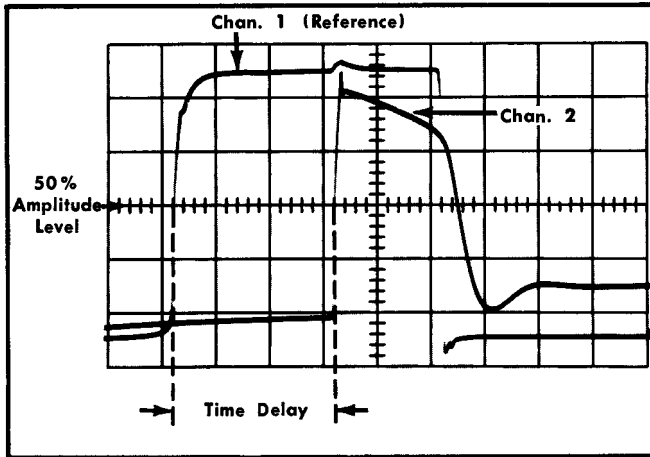

Fig. 3-3. Measuring time delay between pulse waveforms.
9. Measure the horizontal distance between the reference waveform and the Channel 2 waveform (see Fig. 3-3).
For example, assume that the Time/Cm switch setting is $2 \mu\text{s}$, the Magnifier is set for $5\times$ magnification, and there is a horizontal distance of 3 cm (as shown in Fig. 3-3) between the leading edge of the reference waveform and the leading edge of the waveform displayed by Channel 2. Then, substitute these values in the preceding formula: